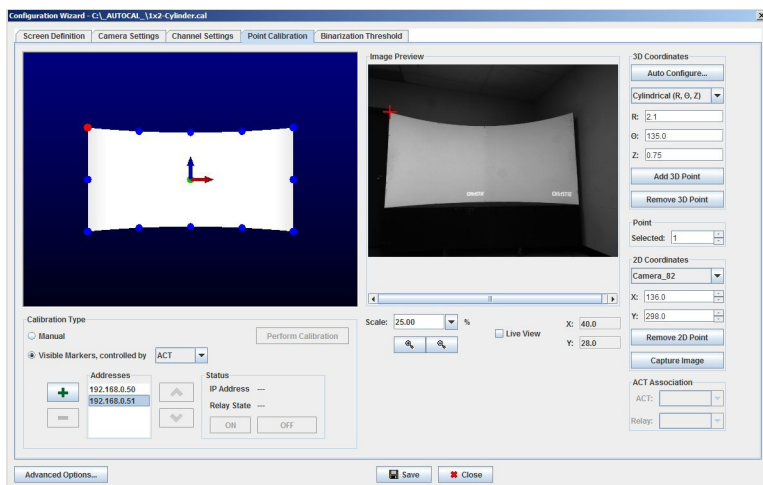

Figure 4-22 Point Calibration Tab
1. On the Point Calibration Tab (Figure 4-22), click **Auto Configure**. The Auto Configure dialog box appears.